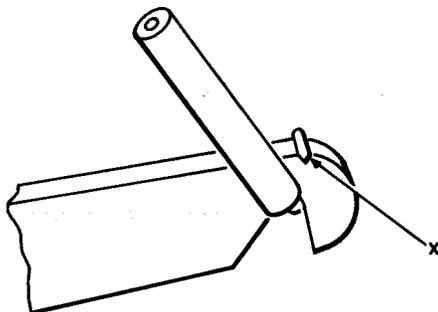

Fig. 6—Termination of Wire on Terminal of a 65-or Similar-Type Terminal Strip
7.09 To terminate a wire on a 65- or similar-type terminal strip, route the wire along the left side of the terminal, through the notch, back along the right side of the terminal, and across the top, as shown in Fig. 6. Cut or break the excess wire at point "X". 20-gauge wire should be cut.